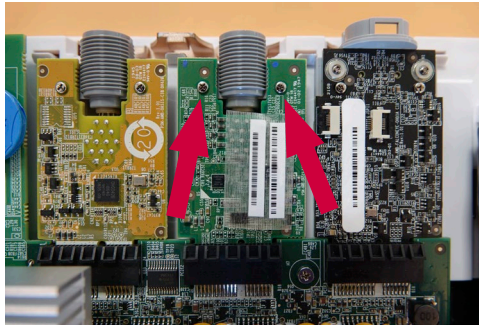

Figure 16 Remove the screws on the VDI board to be replaced
Use the screwdriver to loosen the two screws holding the VDI board (Figure 16)
d) Insert and tighten the two screws (max. torque 0.2 Nm) holding the VDI board in place (Figure 16)